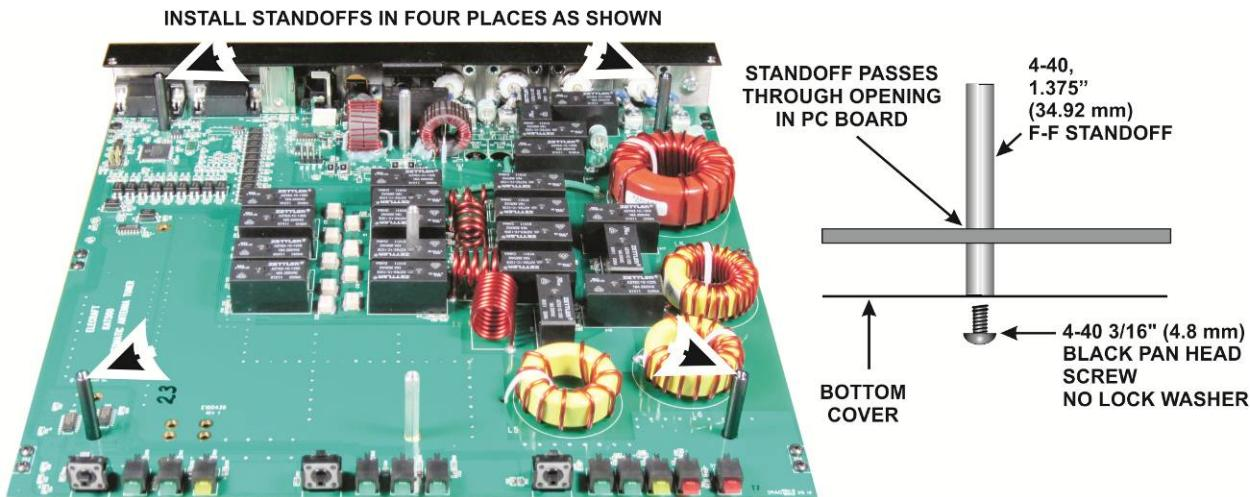

Figure 32. Installing Through-Board Standoffs.
- Install the four standoffs shown in Figure 32. The standoffs pass through large holes in the pc board and mount on the bottom cover as shown.